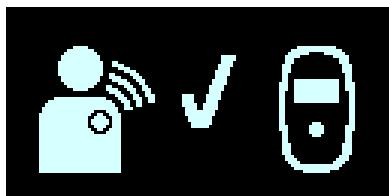

Figure 14: IPG Data Download Success Screen
- When your Guardio Charger has successfully completed downloading the data, it will display the IPG Data Download Success screen accompanied by 3 short beeping tones. The flashing checkmark indicates that your Guardio Charger was able to successfully download information from your implanted device. **See Figure 14.**